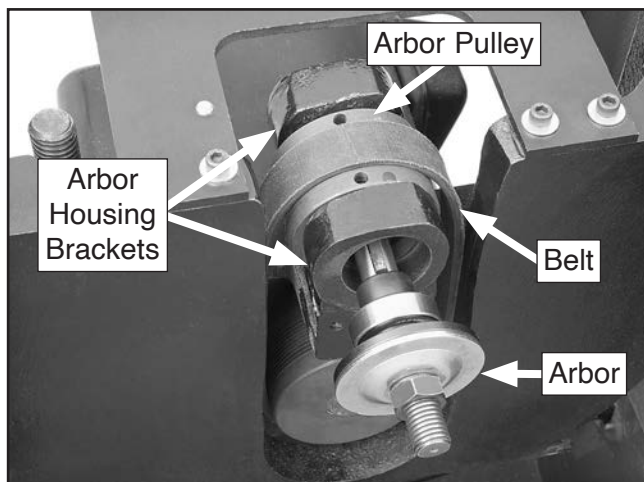

Figure 140. Re-installing arbor and belt.
24. Place arbor pulley between arbor housing brackets, slide belt over pulley, then insert arbor into pulley, as shown in **Figure 140**.